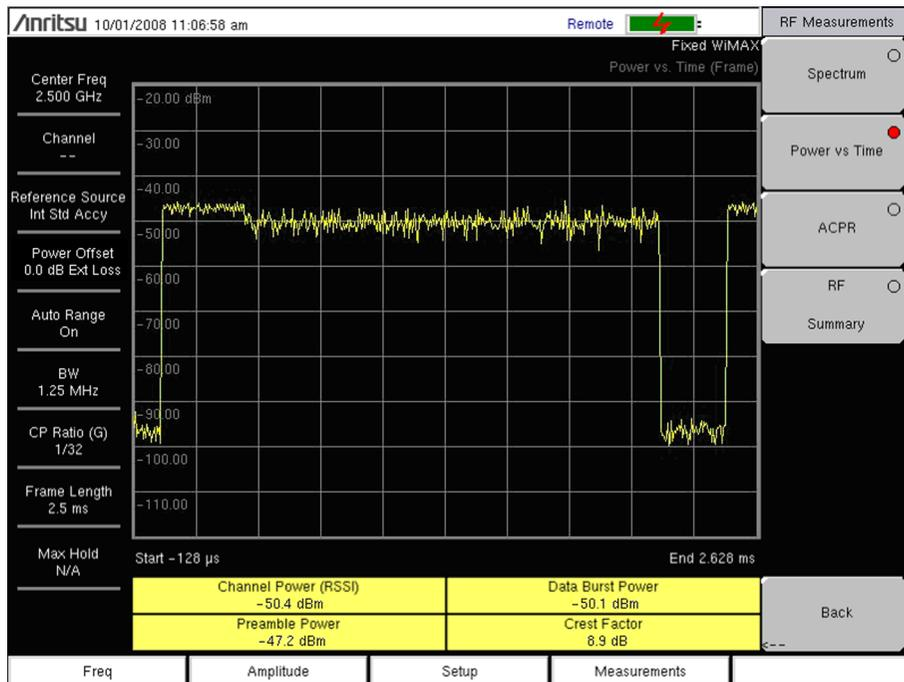

Figure 2-2. Power Versus Time
4. Press the Power vs Time submenu key to activate the measurement. The sample image in Figure 2-2 may differ from any image on your instrument.